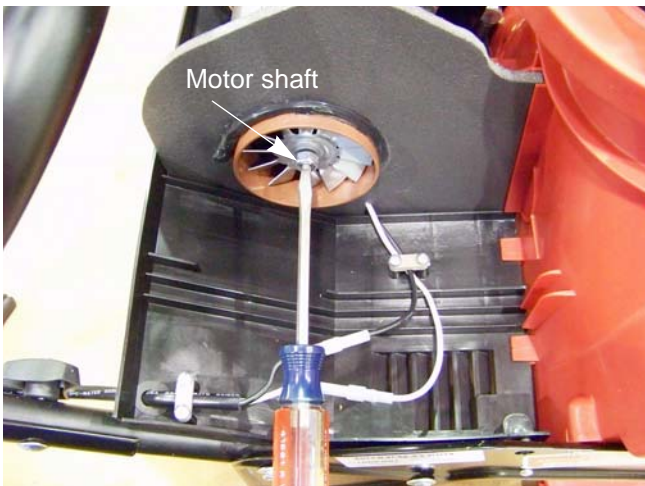

Figure 3.11
3. Hold the motor's rotor shaft by inserting a flat head screw driver into the slot in the end of it, on the fan side. See Figure 3.11.